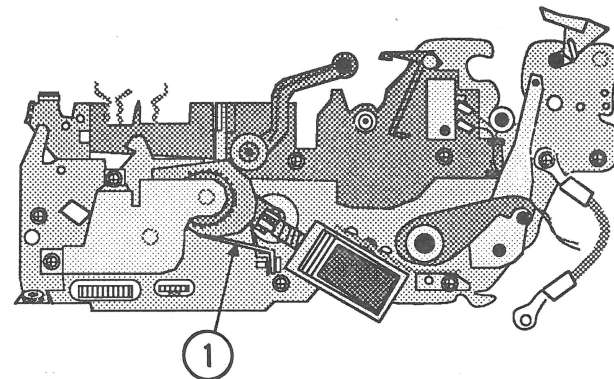

FIGURE 5
3. Connect the multimeter between pins 1 and 2 of the removed connector and alternately depress and release the paper-handling change switch (Figure 5, #1).